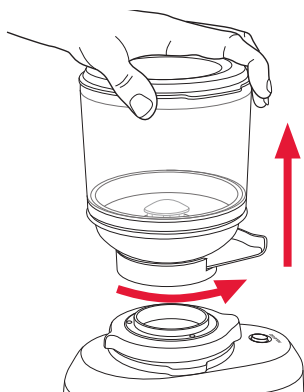

Figure 8
1. Close the hopper closure arm and remove the bean hopper from the motor base, see figure 8. Store unused beans in an airtight container to preserve their freshness.
2. Ensure the coffee grinder is switched off and unplugged from the power outlet. Remove the bean hopper from the motor base, see figure 8.